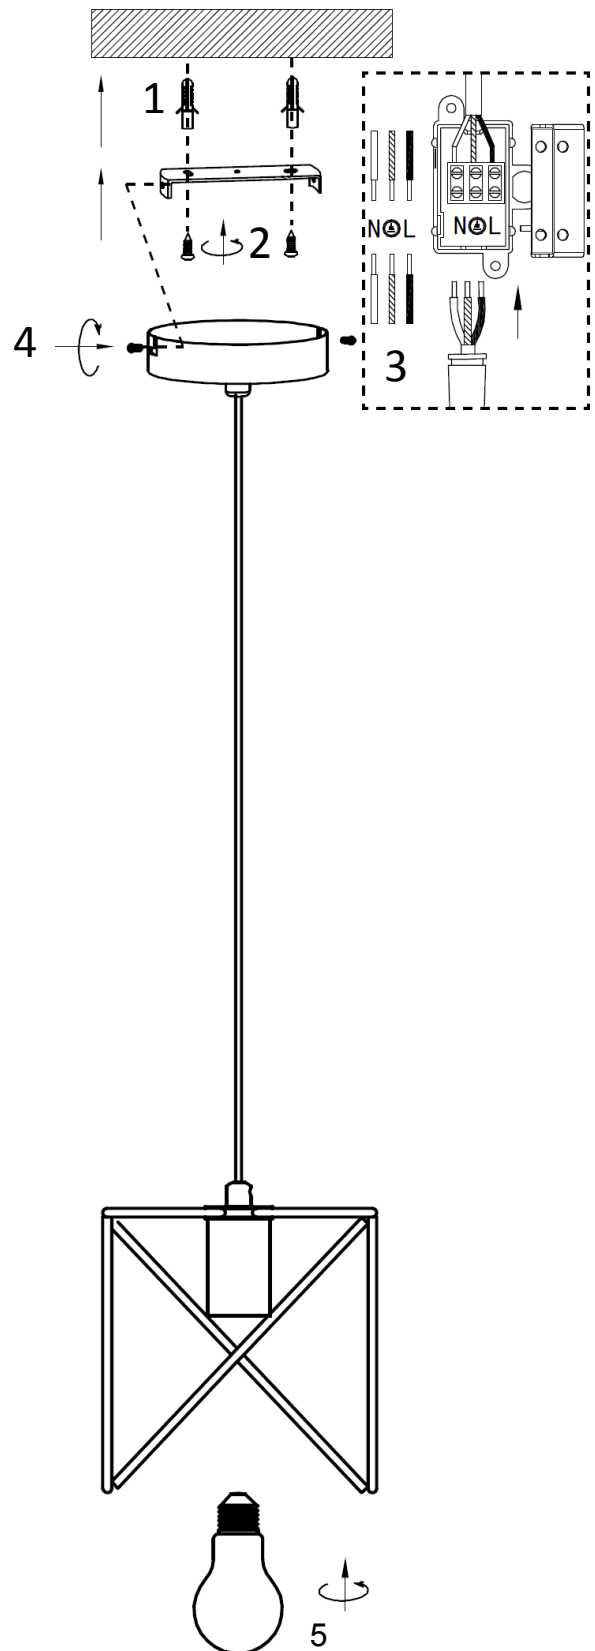

FIG.1
3. Connect the supply wires to the terminal block, opposite the corresponding wires from the fitting (FIG.1).